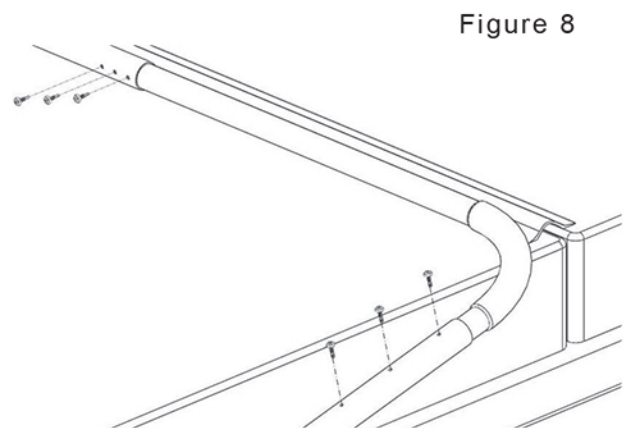

Figure 8
**9** Using the **#10 x 5/8" Self Tapping Screws (J)** to fasten the **Support Arms (B)** to the **Pivot Arms (A)** and the **Center Coupler (C)**. See *Figure 8*.